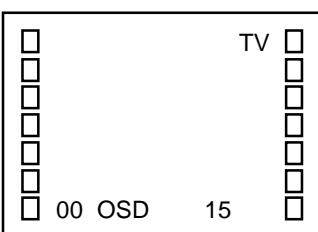

Fig. 1-1
1. In the condition of NO indication on the screen. Press the VOL. DOWN button on the set and the Channel button (**9**) on the remote control for more than 2 second to appear the adjustment mode on the screen as shown in **Fig. 1-1**.
4. Activate the adjustment mode display of **Fig. 1-1** and press the channel button (**02**) on the remote control to select "RF.AGC".
3. Activate the adjustment mode display of **Fig. 1-1** and press the channel button (**01**) on the remote control to select "CUT OFF".
4. Activate the adjustment mode display of **Fig. 1-1** and press the channel button (**10**) on the remote control to select "R.BIAS".
4. Activate the adjustment mode display of **Fig. 1-1** and press the channel button (**03**) on the remote control to select "V.VCO".
3. Activate the adjustment mode display of **Fig. 1-1** and press the channel button **(22)** on the remote control to select "TINT".
6. Activate the adjustment mode display of **Fig. 1-1** and press the channel button **(19)** on the remote control to select "COL.CENT".
3. Activate the adjustment mode display of **Fig. 1-1** and press the channel button **(05)** on the remote control to select "H.PHAS".
3. Activate the adjustment mode display of **Fig. 1-1** and press the channel button **(06)** on the remote control to select "V.SIZE".
1. Activate the adjustment mode display of **Fig. 1-1**.
3. Activate the adjustment mode display of **Fig. 1-1** and press the channel button **(13)** on the remote control to select "BRI.CENT".